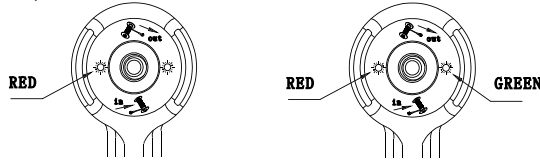

figure 10
- ◇ When power on, the LED on the controller shows RED. When press "IN" or "OUT", LED light shows GREEN (See figure 10).